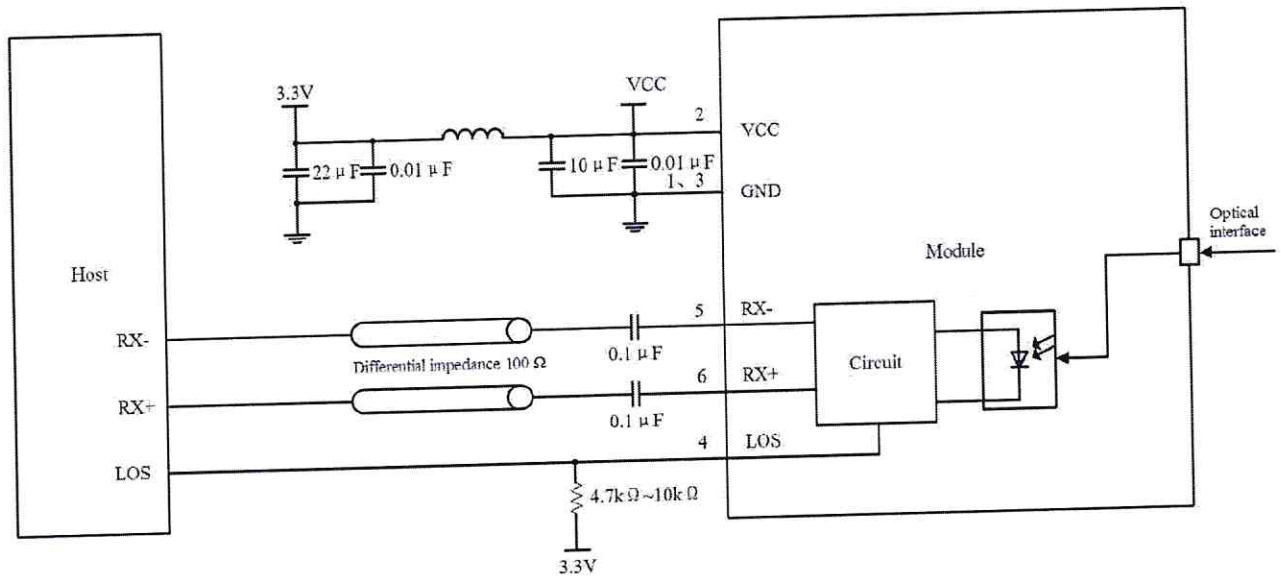

Figure 5 Recommended peripheral configuration
The reference peripheral filter circuit is shown in Figure 5.
- The load capacity of the power supply module on the motherboard must be sufficient. Each optical module needs to place a filter circuit as close as possible to the module power pin to filter the power supply. Please refer to Figure 5 for power supply part design and filtering. The inductor in the circuit must have sufficient overcurrent capability, and the inductance value can be adjusted appropriately;